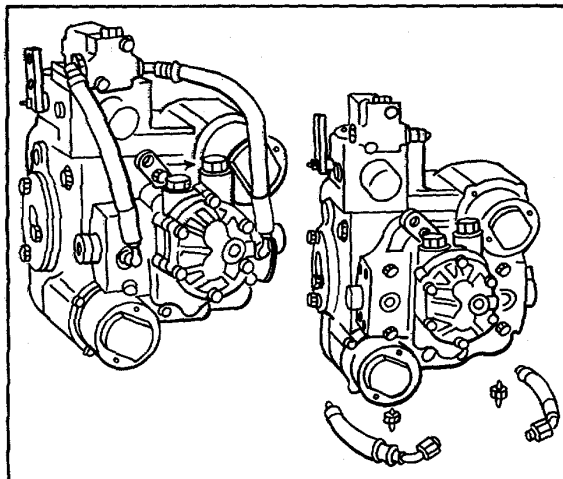

Figure 25.
2. Remove the two hoses connected between the pump end cap and pressure override valve (refer to Fig. 25).